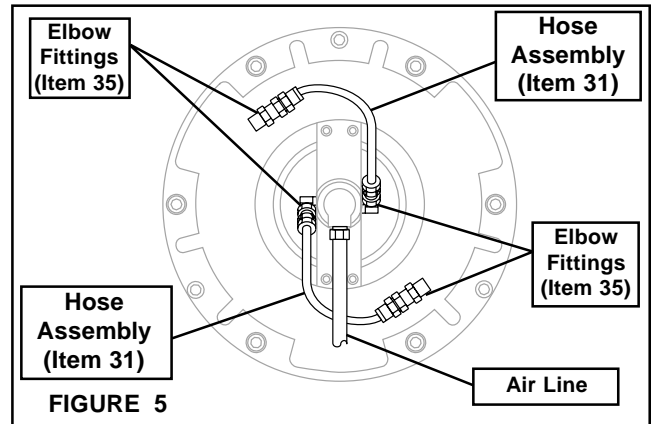

FIGURE 5
4. Apply pipe sealant to the threads of the Elbow Fittings and install the Elbow Fittings into the Cylinder of the clutch and Rotary Air Union (See Figure 5).
5. Connect the two Hose Assemblies (Item 31) to the four Elbow Fittings (Item 35) (See Figure 5).
6. Connect Air Line to the Rotary Air Union (See Figure 5).
Air Line must be routed as shown (See Figure 5).